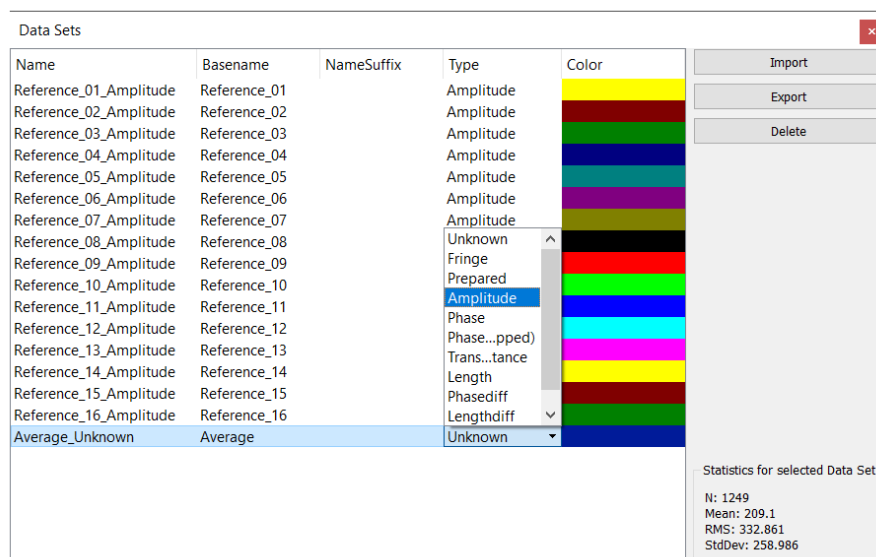

Fig. 18: Changing the file type of the averaged dataset.
4. The averaged dataset appears in the Data Selection Window, as yet of type “Unknown”. Change the type to “Amplitude” (Fig. 18).